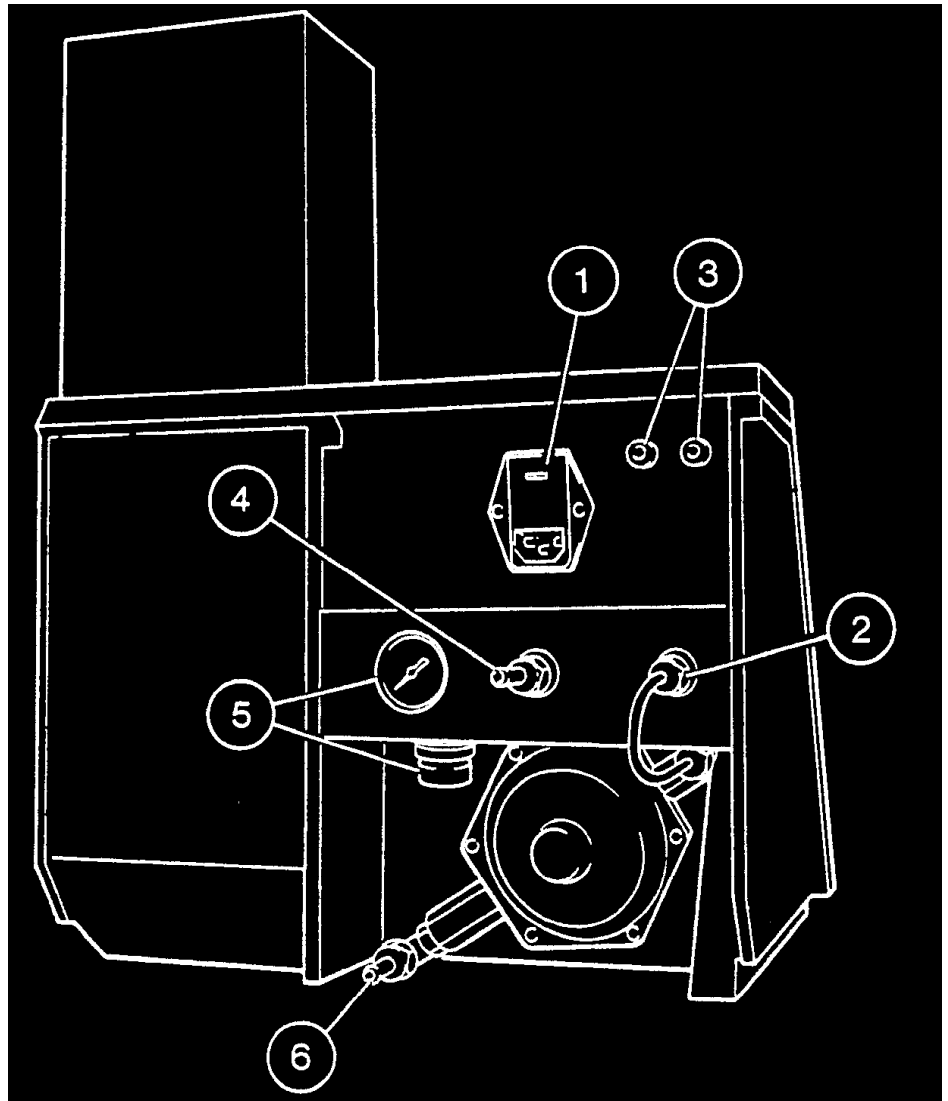

Figure 5.2 Rear Panel
13. Without touching the fine and coarse controls aspirate each of the remaining calibration standards for 20 seconds (starting with the lowest concentration to avoid carry over) again allowing 10 seconds between measurements. Note the value of each standard and plot the results on a graph against standard concentration on linear graph paper. Refer to example shown in Figure 5.2.